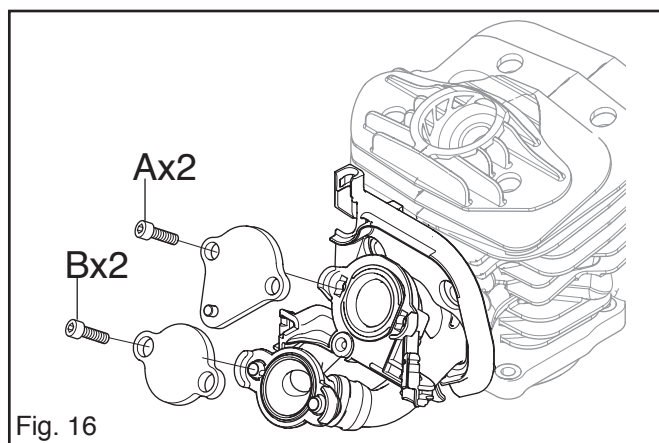

Fig. 16
1. Fit both cover plate 502 52 48-01 with bolt on the intake manifold. See fig. 16.